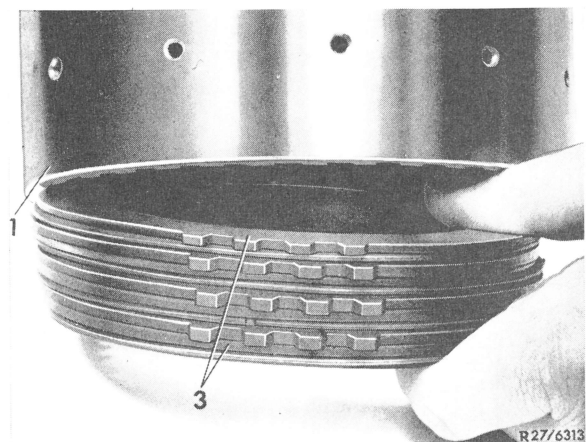

Fig. 2
2 Remove plate assembly (3) by tilting supporting flange (1) (Fig. 2).